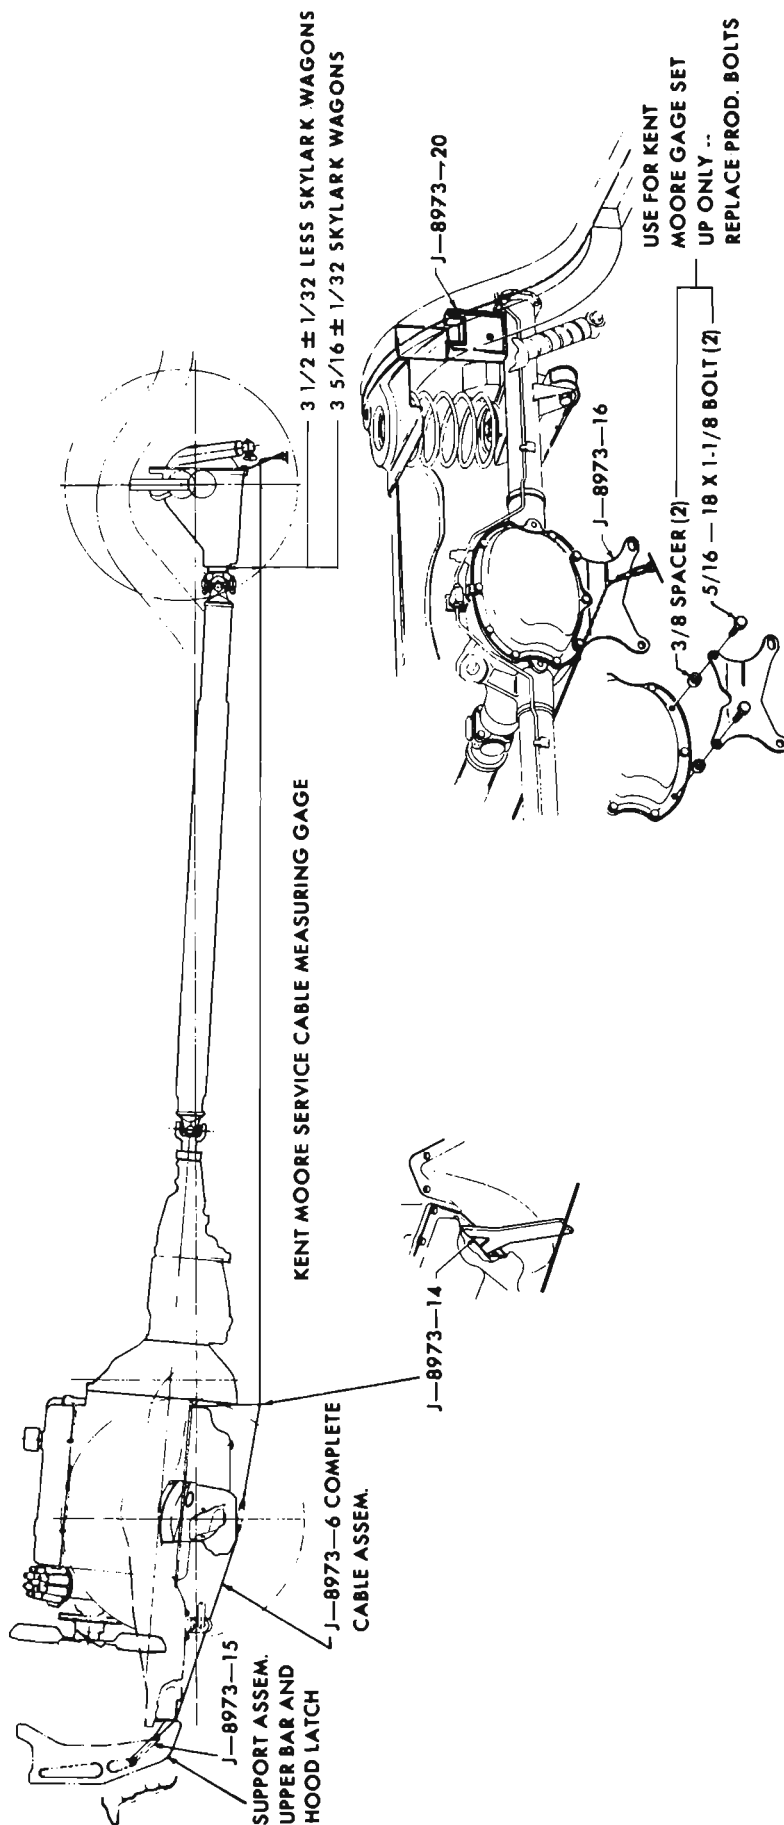

Figure 6-54—Checking Rear Universal Joint Angle
1. With car on hoist, raise rear of car and position spacer blocks with tips up so that they contact frame just ahead of rubber bumper; bottom of block should be parallel to axle. Hold blocks up against frame and allow car to settle until axle housing contacts block. **NOTE: Use same blocks for Station Wagons and Sedans. See Figure 6-54.**
3. Engage front attaching Bracket J-8973-15 in lower opening of vertical center support assembly located at front of radiator. Hook bracket into bottom of opening. See Figure 6-54.
4. Place Engine Height Plate J-8973-14 so that the upper end bears against the engine oil pan between the two rear oil pan bolts. See Figure 6-54. Place the cable in notch of height plate, pull cable tight and hook into rear bracket so one of the stops on the cable is to the rear of the bracket slot. It is important that the cable is fully in the slot and is taut and free of kinks.
5. Measure perpendicular distance from cable to surface immediately in front of slinger on rear pinion flange. The correct dimension is given in Figure 6-54.